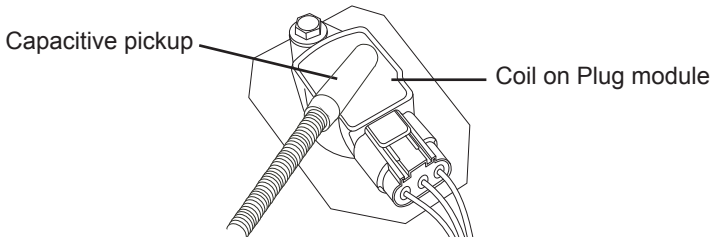

Fig. 4 - Capacitive pickup on coil on plug module
- 6- Place the capacitive pick-up (yellow tip of the probe), as shown in Fig. 4 below, over one of the ignition modules, searching for the position that produces a stable RPM or spark burn time reading.